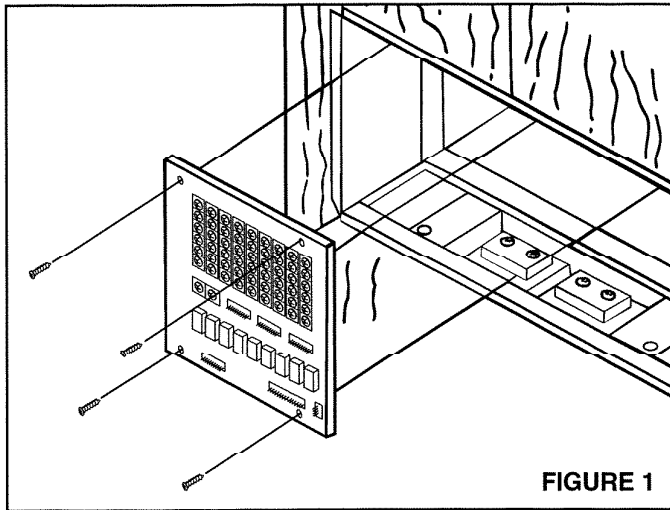

FIGURE 1
2. Refer to Figure 1. Locate the terminal board in the left rear section of the rough-in frame.
3. Use four (4) N° 6 x 3/8" screws supplied to secure the terminal board to the rough-in frame.